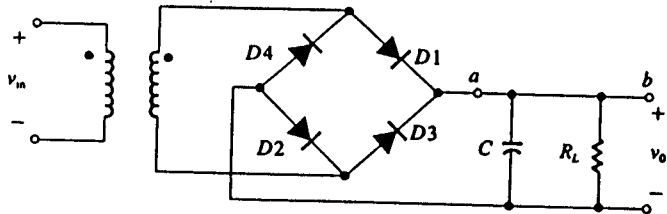

Figure 4.
4. An adaptor is designed using Figure 4. If the design conditions are determined as: